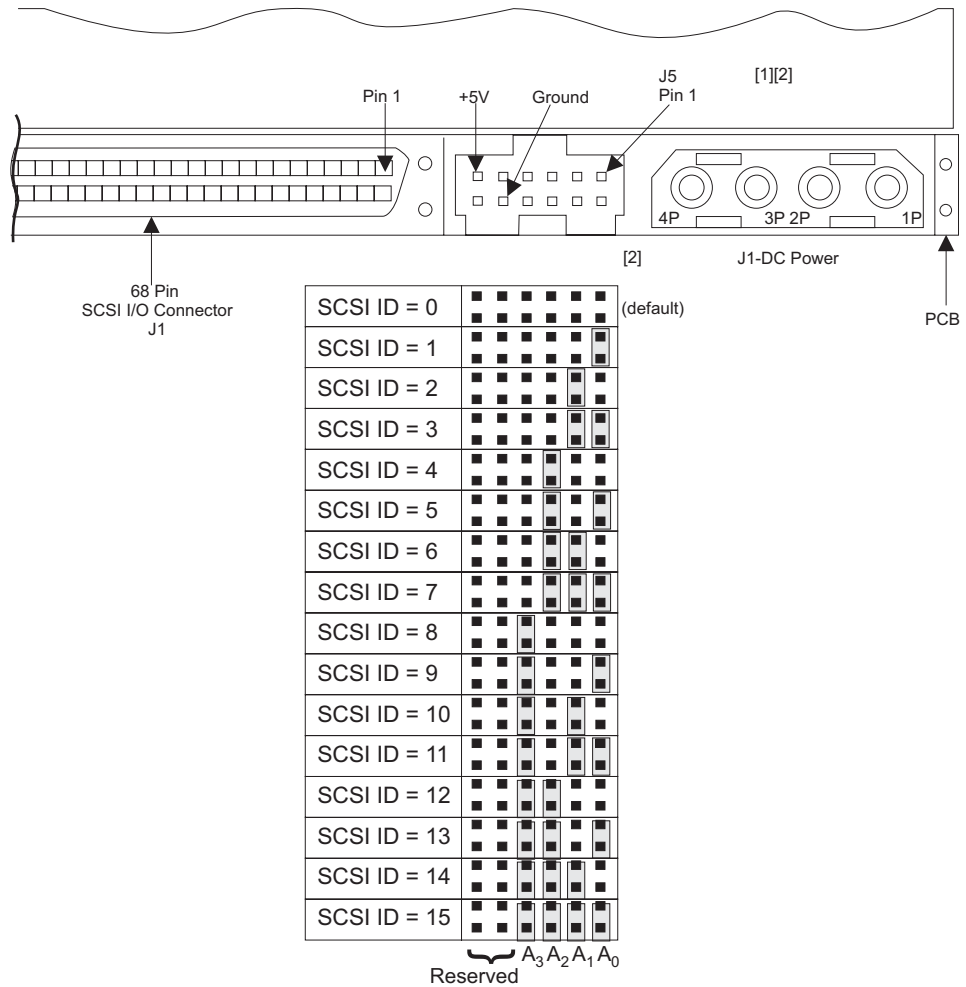

Figure 96. Disk drive jumpers
11. Refer to Figure 96 on page 181.